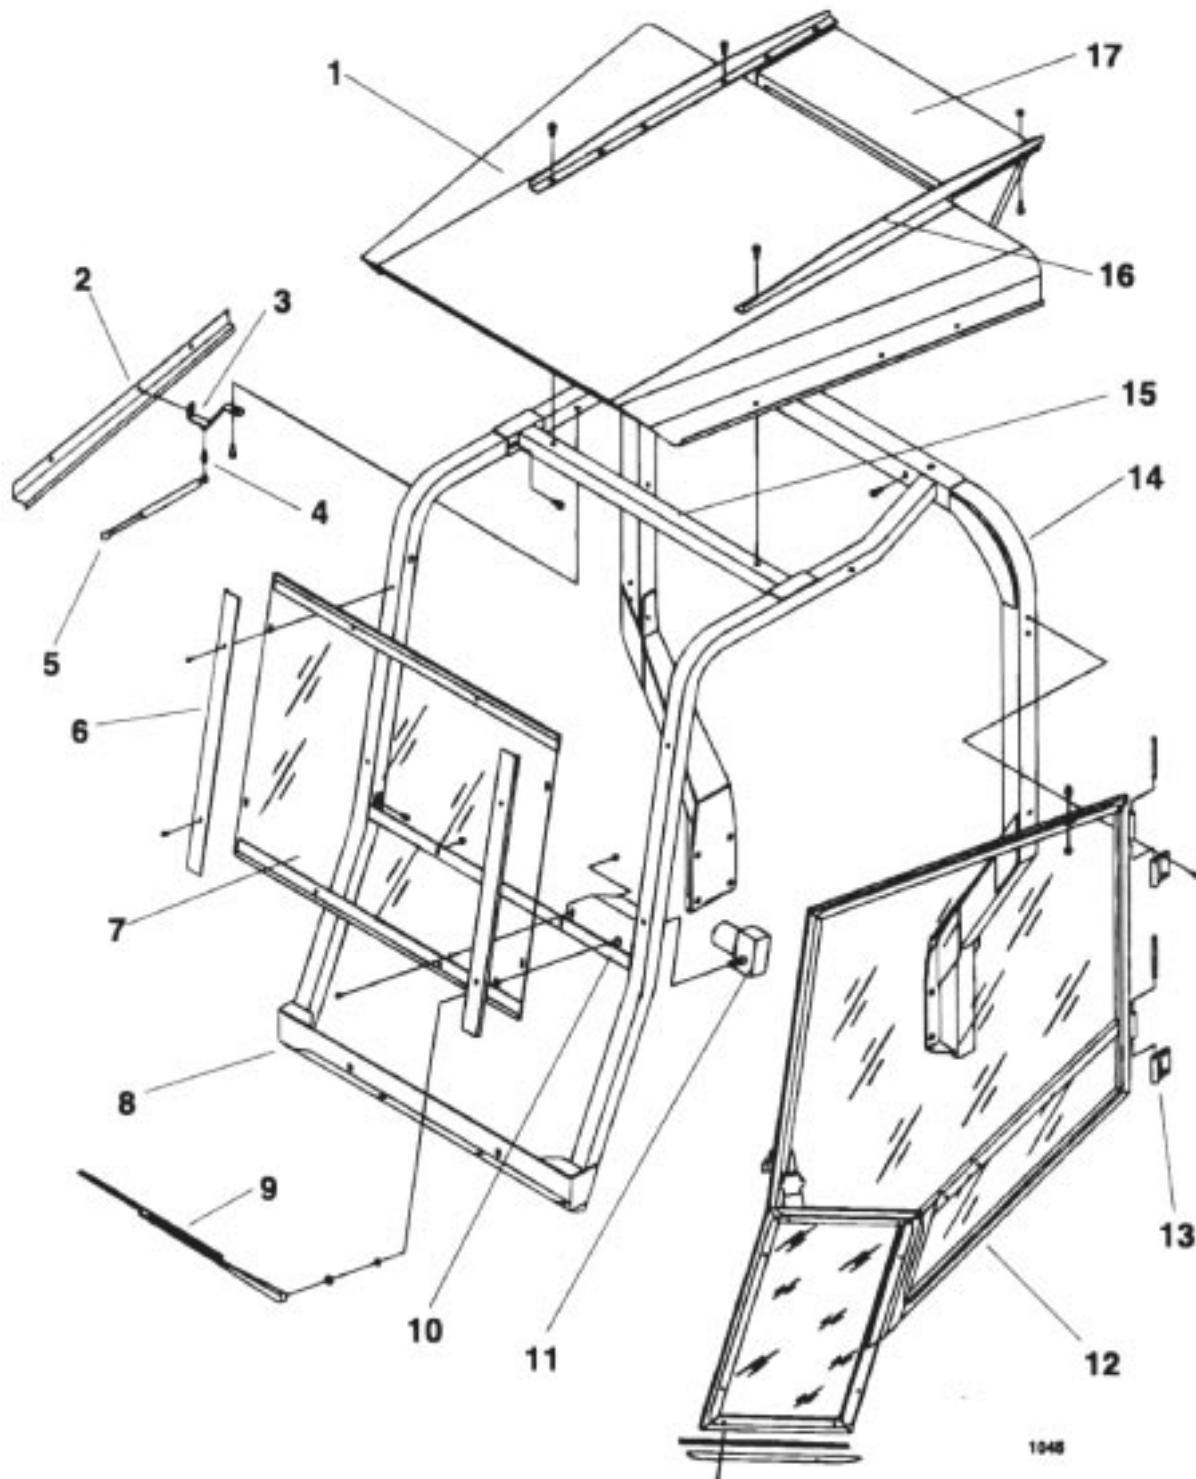

FIG. 12
1. Set Enclosure Cover on top of the Rops Bar/ Front Bar Assembly. Hook the rear of the Enclosure Cover over the back of the Rops Bar and slide Cover forward. See FIG. 12.
1. Place Condenser Mount Angles on top of the Enclosure Cover Assembly. Loosely secure Angles to the Cross Tube Assembly and Rops Bar with (4) 3/8" x 1" capscrews (2 per angle). See FIG. 12.
2. Secure Condenser to Condenser Mount Angles using (4) 3/8" x 1" capscrews and flange locknuts. See FIG. 12.
1. Mount L.H. and R.H. Door Backing Angle Assemblies with foam side out onto Enclosure Cover Assembly using (6) 3/8" flange screws and flange locknuts. See FIG. 12.
2. Mount Gas Spring Support Bracket to each side of Enclosure Cover Assembly using (2) two 5/16 flange locking bolts. See FIG. 12.
1. Loosely mount Lower Windshield Mount Assembly to Front Bar Ass'y using (3) 1/4" x 3/4" flange screws. See FIG. 12.
2. Fasten Windshield to Front Bar Ass'y using (2) Windshield Clamps and the Lower Windshield Mount. Secure with (8) 1/4" x 3/4" flange screws and (2) flange locknuts. See FIG. 12.
3. Loosely fasten Door Hinges to ROPS Bar using 1/4" x 3/4" capscrews. Mount Doors to Hinges using (4) four 5" Clevis Pins. See FIG. 12.
7. Attach Gas Springs to Right and Left Door Assemblies and Enclosure Cover by snapping socket end of Spring onto Ball Stud on Door Brackets. **NOTE: The Rod End from the Gas Spring will attach to the Ball Stud on the Door. The Gas Spring Body will attach to the Ball Stud on the Gas Spring Support. See FIG. 12.**